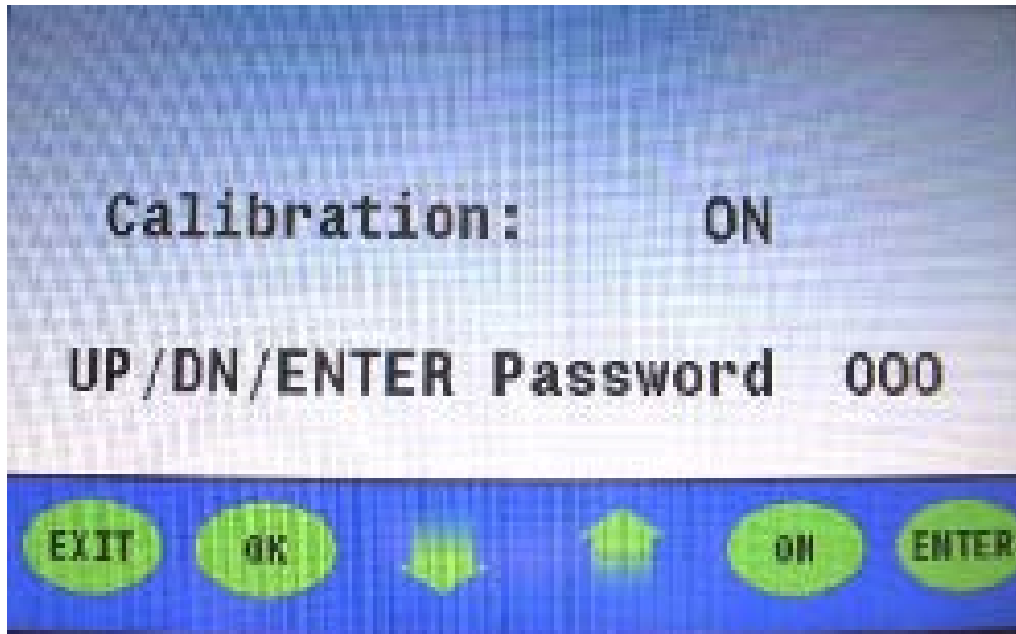

Figure 4
5. Press the **up** or **down arrow** once; three [3] zeros [000] will appear on the right-hand side of “password” (**figure 4**).